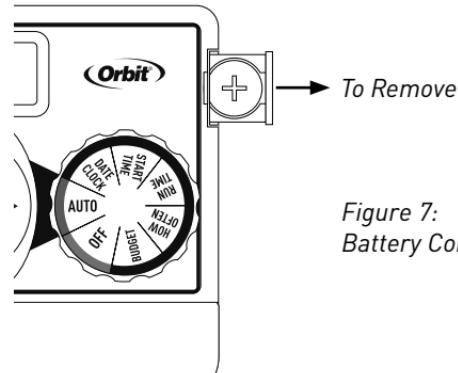

*Figure 6:
- Connect the rain sensor wires to the wiring terminal ports (yellow in color) labeled "Sensor" (see figure 6).